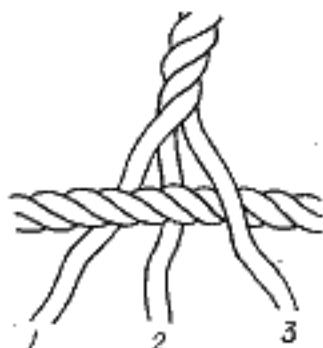

FIG. 356.—Detail of halter splice used on calf halter, Fig. 355.
**414. A calf halter**, popular with calf club members, is illustrated in Fig. 355. A loop splice is first made, and then the end of the headpiece fastened to the standing part with a special, tight-fitting, adjustable loop. To make this special loop, the strands are unlaid back about 7 in. from the end. They are then wrapped around the standing part as shown in Fig. 356, and then woven back into the headpiece in the same manner as in making an end splice or a side splice.